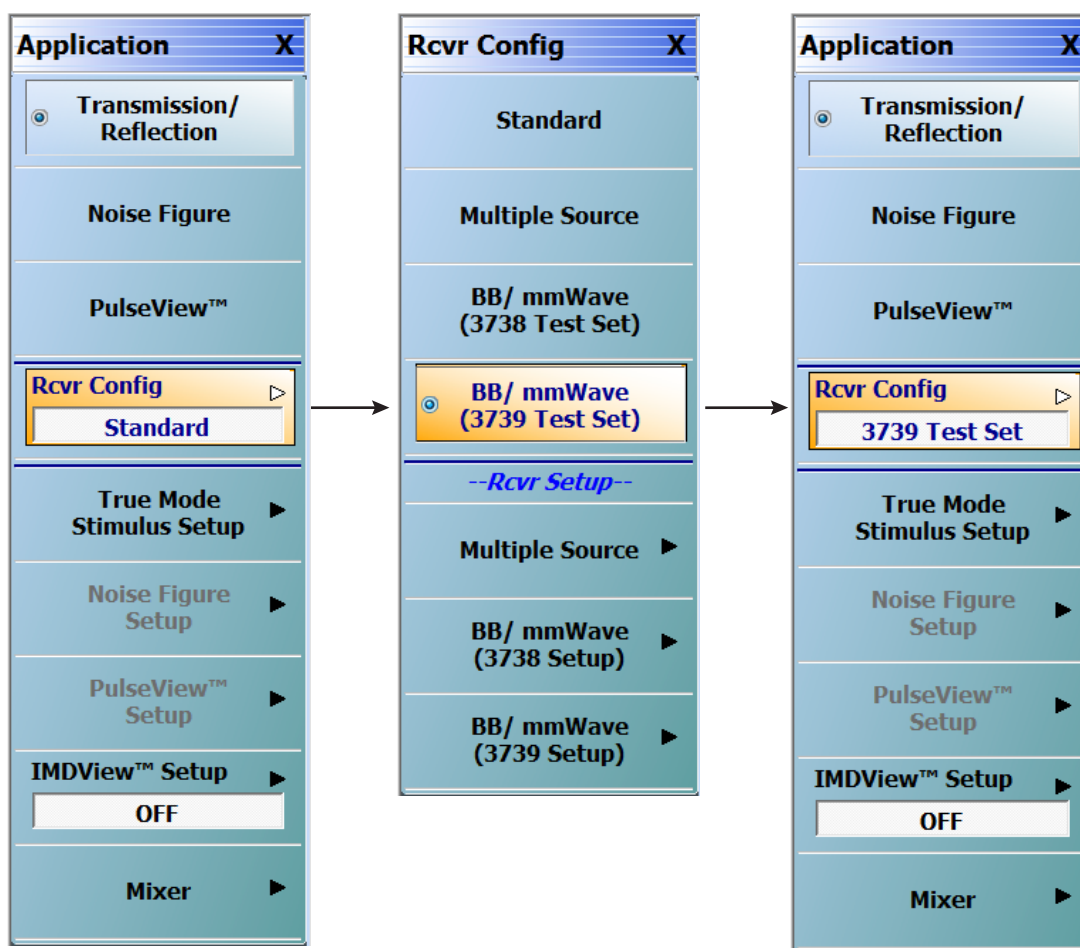

Figure 5-1. APPLICATION Menu – Receiver Configuration to 3739 Test Set (MS464xB Systems)
3. At the MAIN menu, select Application. The APPLICATION menu appears as shown in Figure 5-1 on page 5-2.